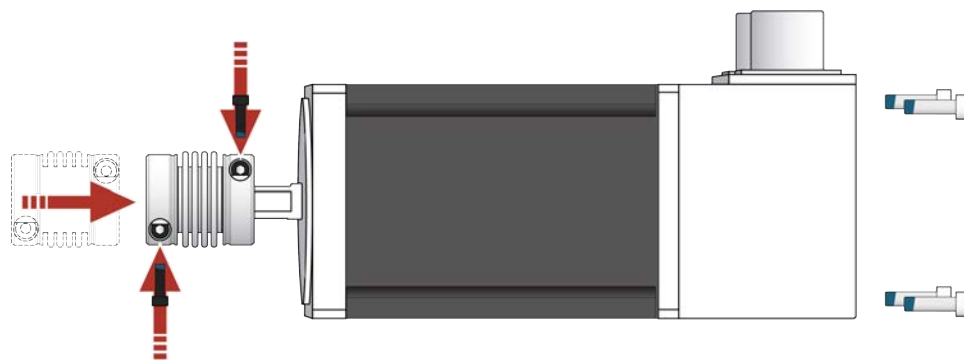

Figure 4-5: Attach the Coupling Adapter to the Motor Shaft
5. Attach the Shaft Coupling to the Motor shaft (refer to Figure 4-5). Refer to Table 4-1 for the correct hardware and torque requirements.